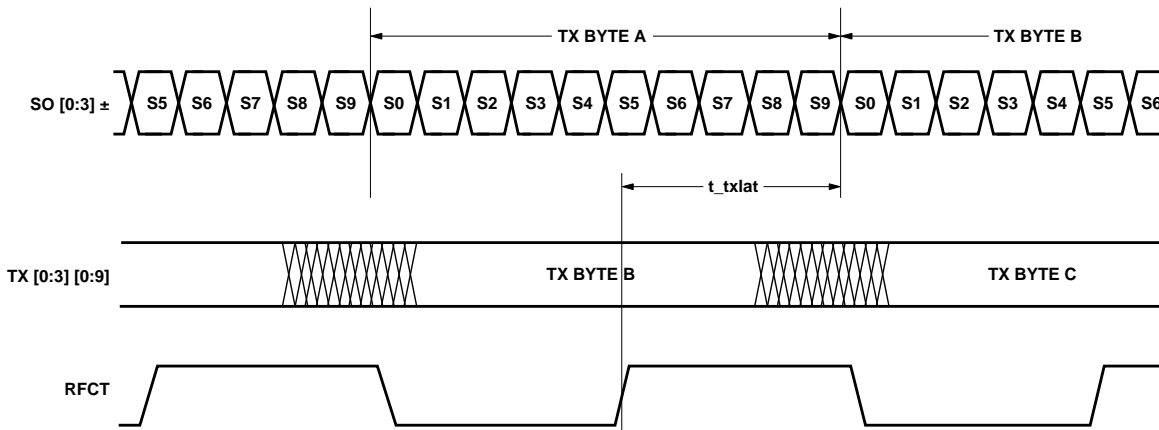

Figure 4. Transmitter latency.
1. The transmitter latency, as shown in Figure 4, is defined as the time between the latching in of the parallel data word (as triggered by the rising edge of the transmit byte clock, RFCT) and the transmission of the first serial bit of that parallel word (defined by the edge of the first bit transmitted).